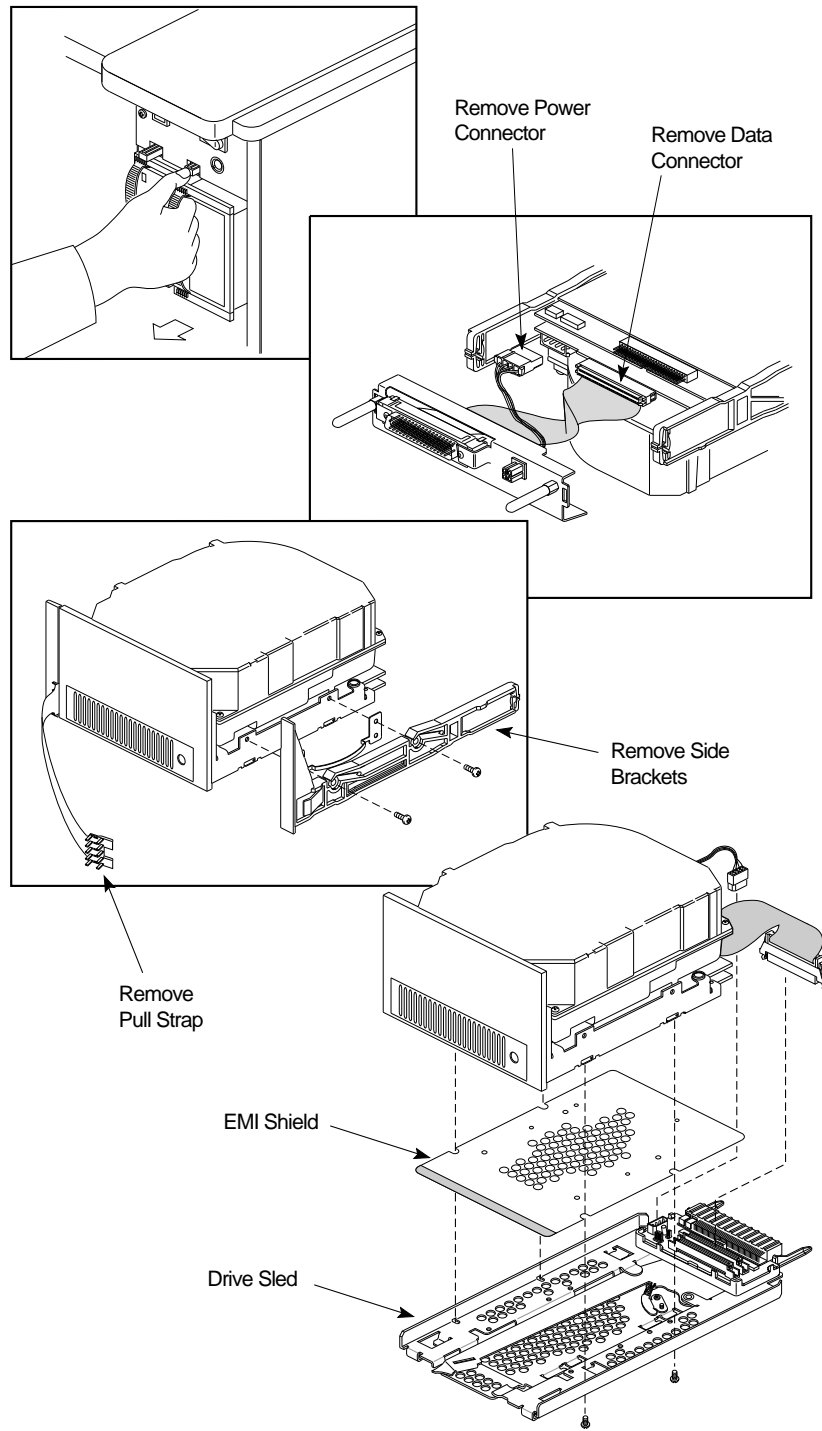

Figure 5-91 Modifying an Old Front-loading Drive
If you need to convert an existing old-style front-loading drive, see Figure 5-91 and follow these steps:
2. Remove the side bracket on each side of the drive by removing four screws (total); see Figure 5-91.
8. Plug the power cable into the power connector on the drive sled (see Figure 5-91).